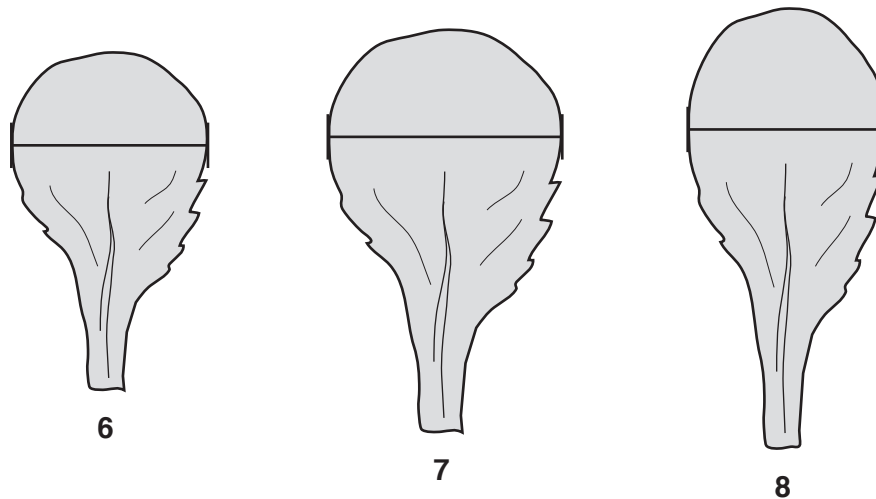

Fig. 2.1
The results for three leaves grown in high light intensity are shown in Fig. 2.1. The horizontal line on each leaf indicates its maximum width.
- (a) (i) Measure the widths of leaves 6, 7 and 8 in Fig. 2.1 and record these values in Table 2.1. [1]